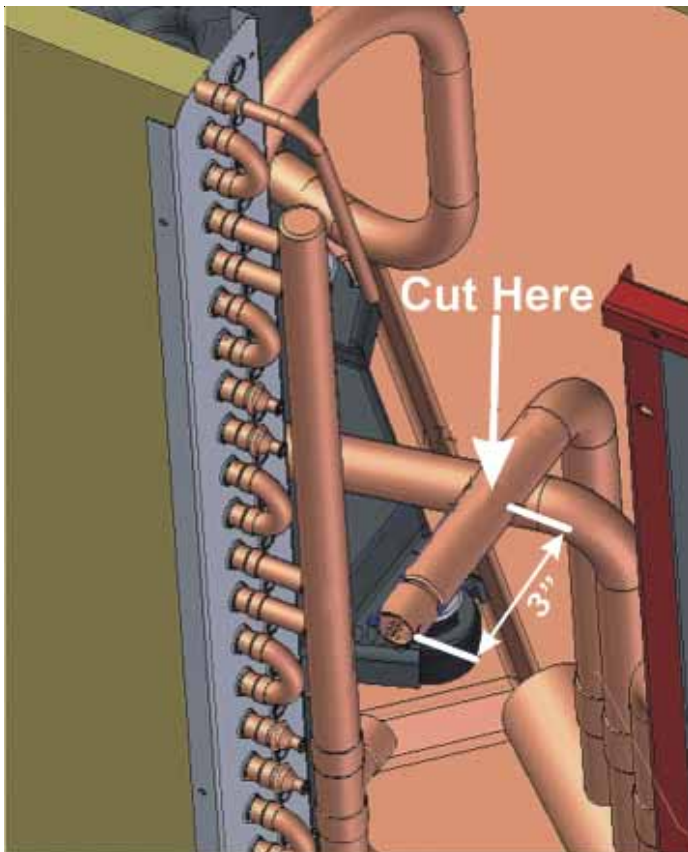

Figure 1
2. Cut 3" off of tube from reversing valve to outdoor coil and deburr. (See Figure 1)